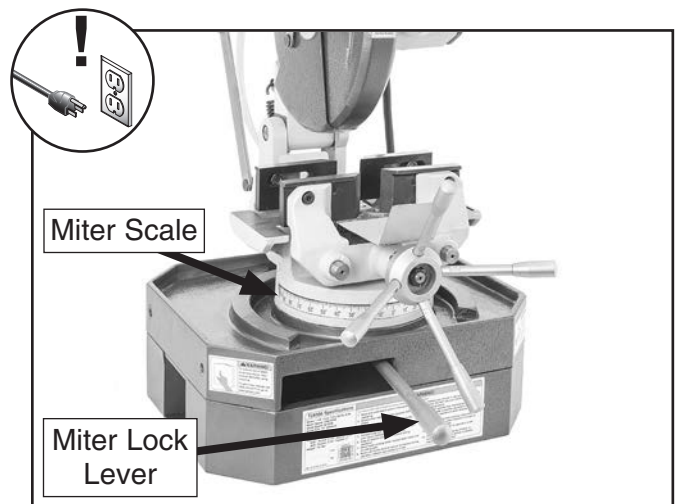

Figure 38. Location of miter lock lever and miter scale.
2. Release miter lock lever (see **Figure 38**).